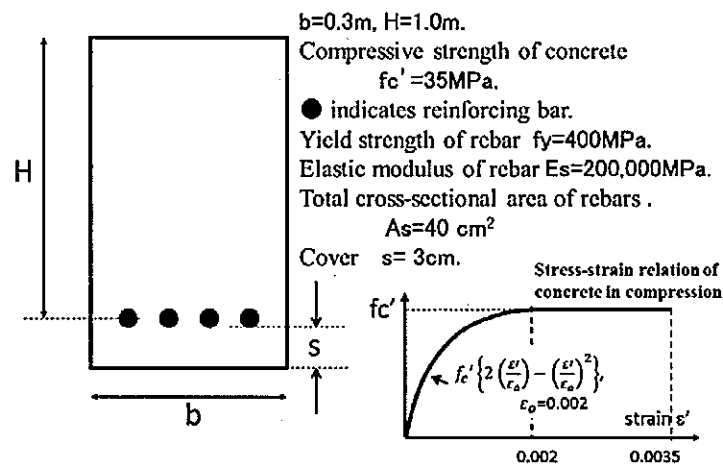

Fig. 1 Reinforced concrete section and characteristic values of materials
- (1) Answer the following questions. If you judge that some characteristic values of materials are not provided for solution, you may solve the problems by defining them by yourself.
- Calculate the ultimate flexural capacity "Mu" of the cross-section (see Fig. 1) when the axial force is zero.
- The ultimate flexural capacity varies according to the axial force, which is first applied to the cross-section as shown in Fig. 1 prior to flexure. Compute the axial force which leads to the maximum ultimate flexural capacity.